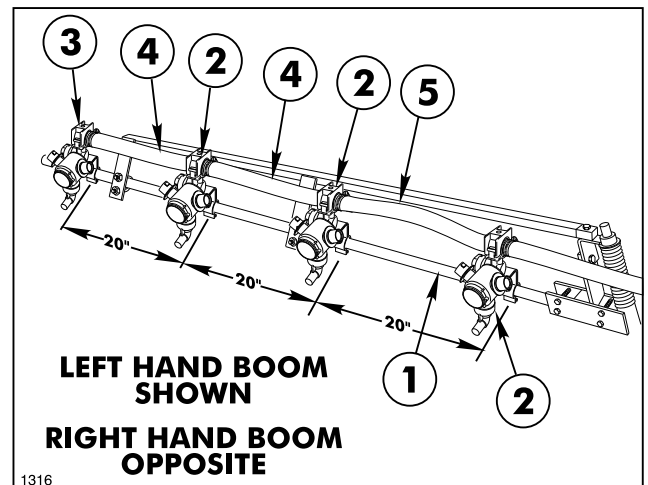

FIG. 2
5. Attach three Double Barb Turret Bodies and one Single Barb Turret Body with Turret Body Clamp on each Extension Boom Pipe as shown in Fig. 2. Place Nozzle Bodies level and space 20" apart. Connect the Turret Bodies with the 3/4" x 19" Jumper Hoses. Secure with hose clamps. See FIG. 2.
NOTE: The (2) 3/4" x 21" Jumper Hoses provided with the Center Boom Kit may be cut to 19" long for use with the Multi Pro 1100 and the Workman vehicles. The hoses are required to be 21" long only in cases where the Boom Extensions store away in a crisscross position. See FIG. 2.